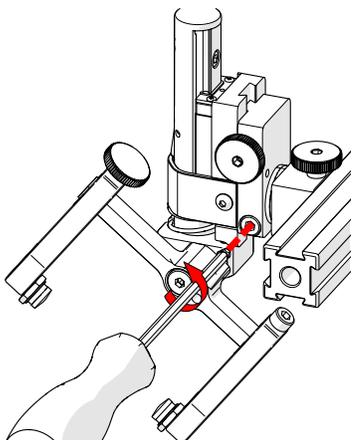

Fig. 56 - Loosen 3 mm screw
2. Using the supplied 3 mm hex driver (*Fig. 14*), loosen the longitudinal adjustment screw (*Fig. 56*).